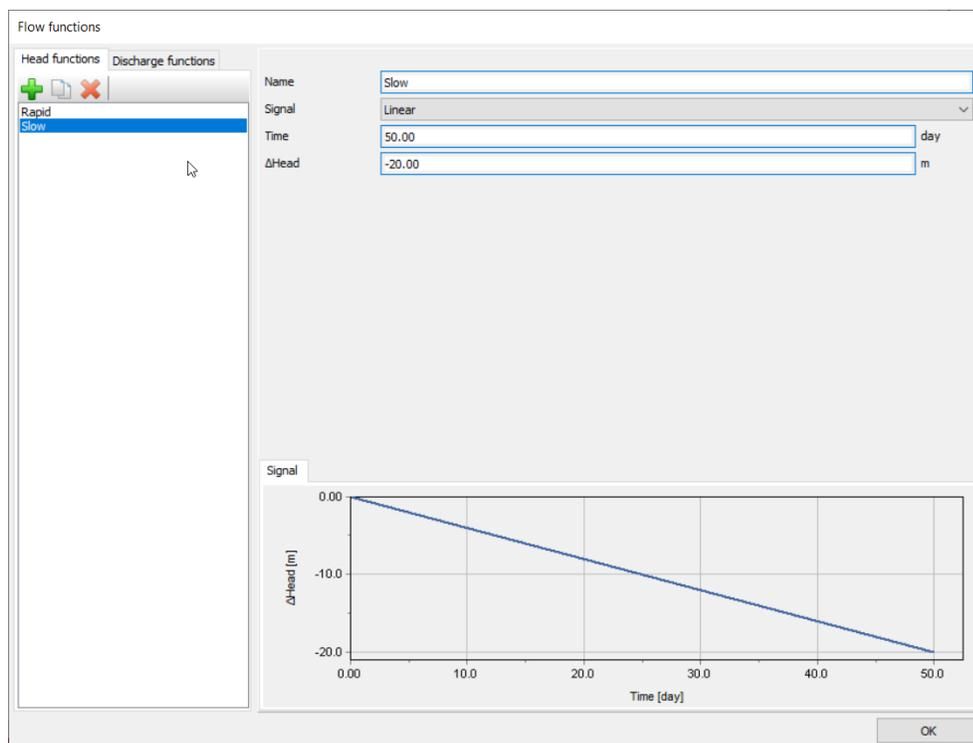

Figure 110: The flow function for the slow drawdown case
9. Create a new flow function (see Figure 110 (on page 138)) following the steps previously described.